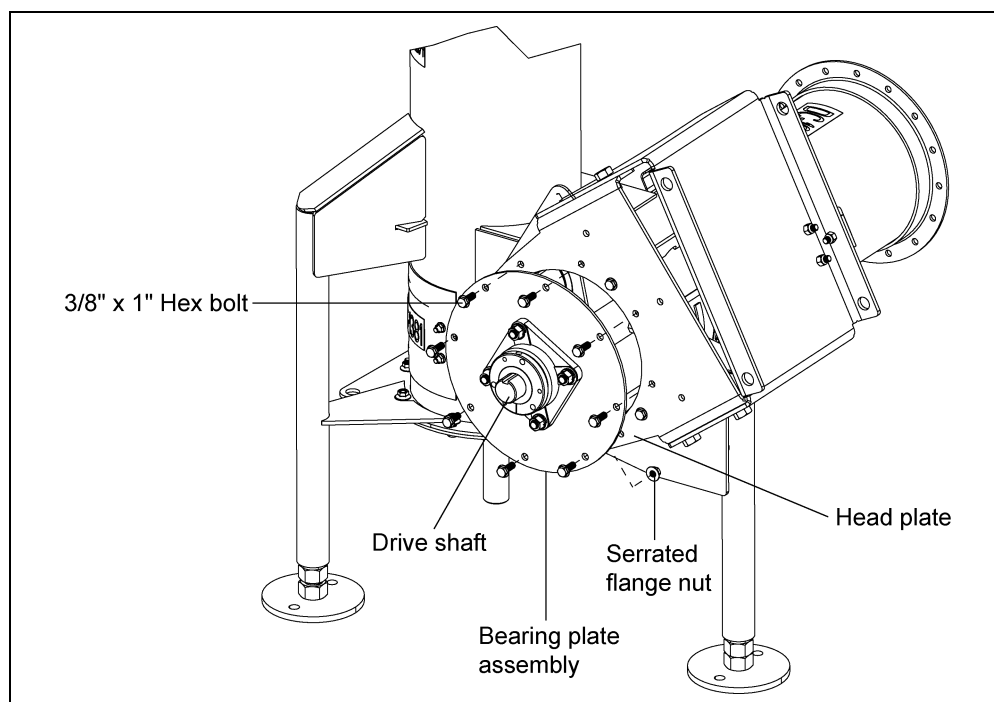

Figure 4M
2. Bolt the bearing plate assembly to the head plate using four (4) 3/8" x 1" hex bolts and serrated flange nuts. (See Figure 4M.)